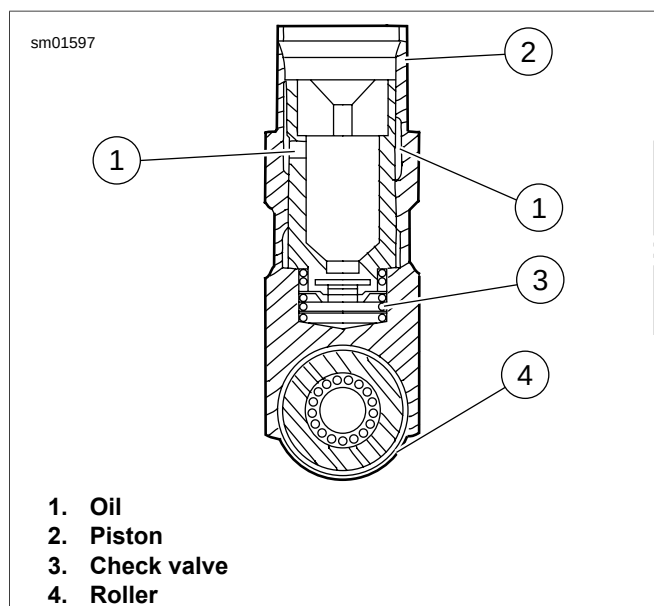

Figure 3-170. Tappet Assembly
See Figure 3-170. The tappet and roller (4), under compression force from valve spring, follow the surface of the revolving cam. The up-and-down motion is transmitted to the valve by the pushrod and rocker arm. The tappet contains a piston (2) and cylinder. The check valve (3) allows the unit to fill with engine oil (1) reducing clearance in the valve train. The unit automatically compensates for heat expansion to maintain minimal clearances between the cam and the pushrod.